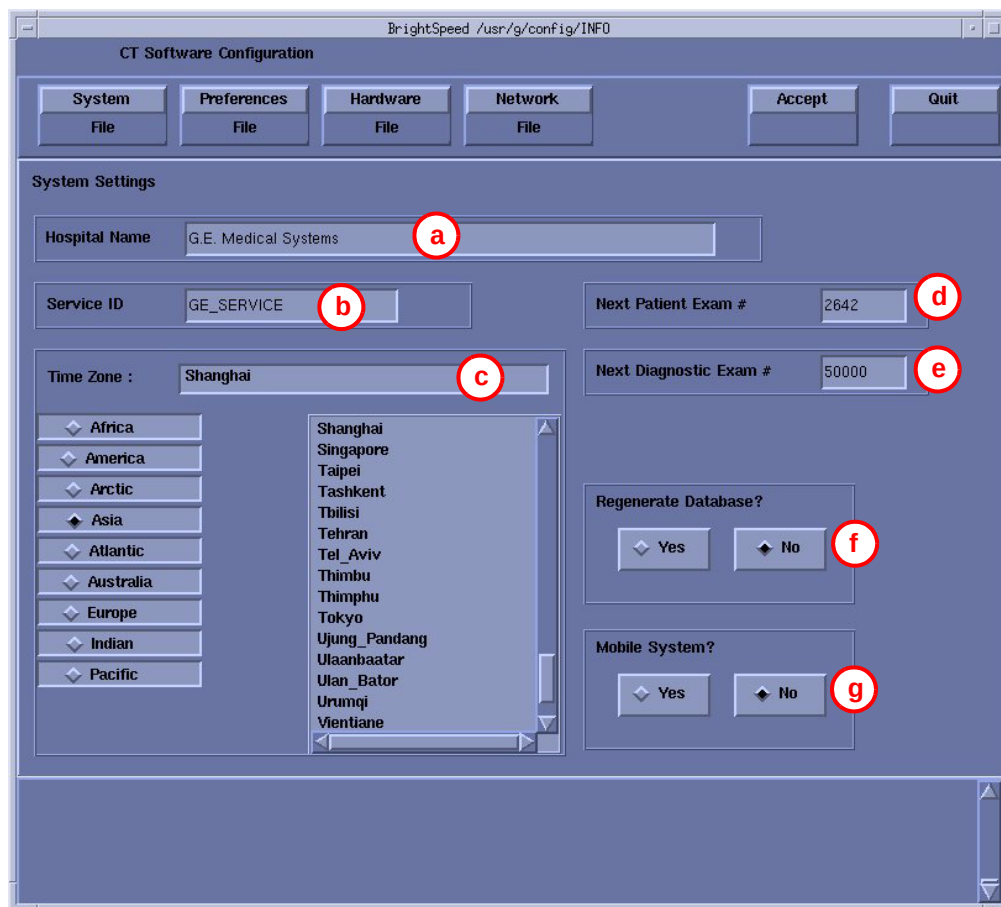

Figure 5-11 System Settings Screen
The OC displays the System Configuration - System Settings Screen as shown in Figure 5-11.
- a.) Hospital Name (Figure 5-11, item 1) configures the name that will show up on images produced by this scanner. *Example:* ST MARYS HOSPITAL
- b.) Service ID (Figure 5-11, item 2) is issued by the Service organization.